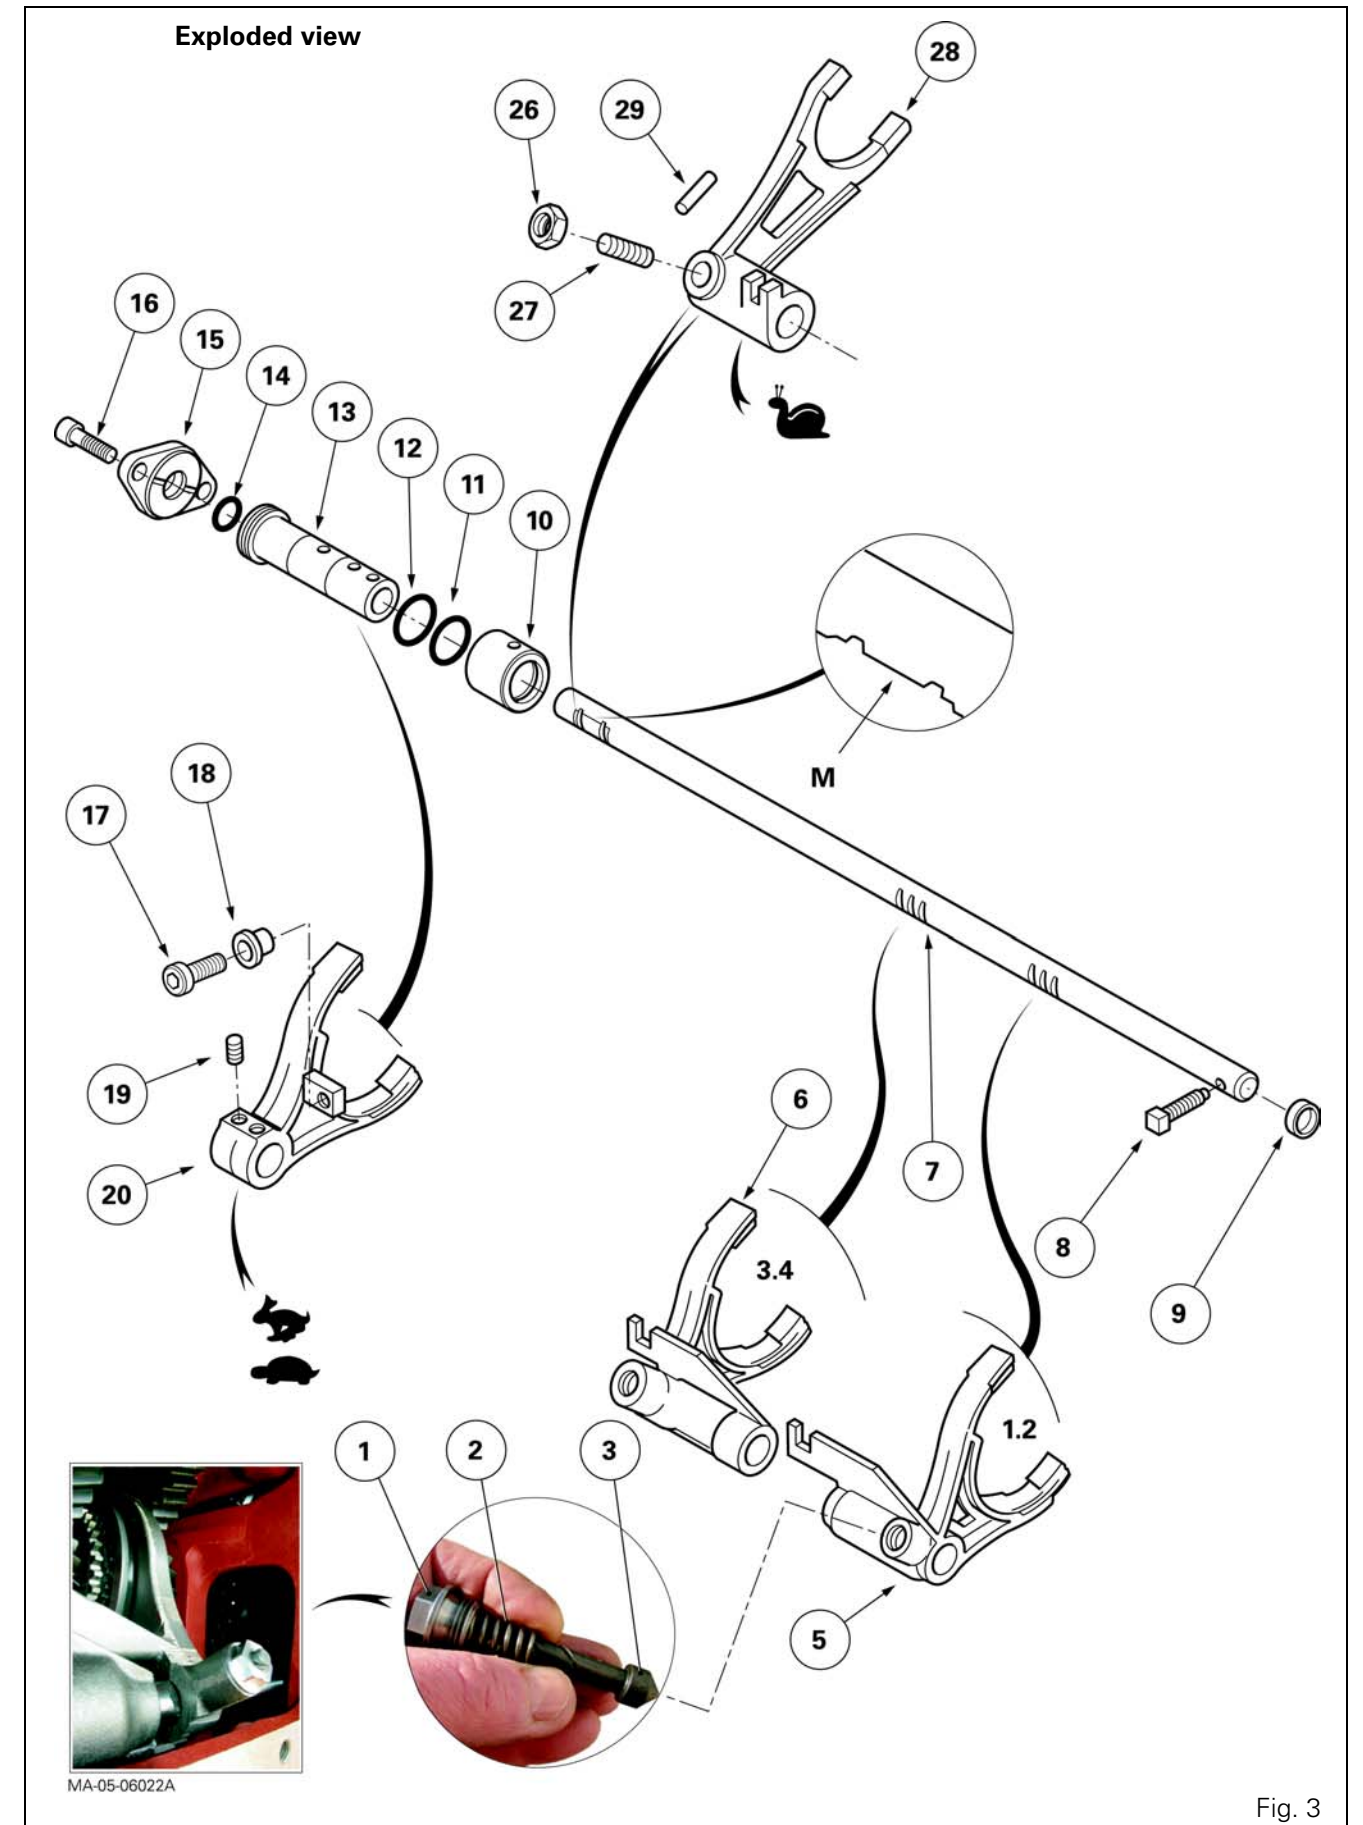

Fig. 3
Parts list (Fig. 3)
3. Remove the selector cover (see chapter 5). Take out the plugs (1), the springs (2) and the locking studs (3) to release the selector rail (Fig. 3).